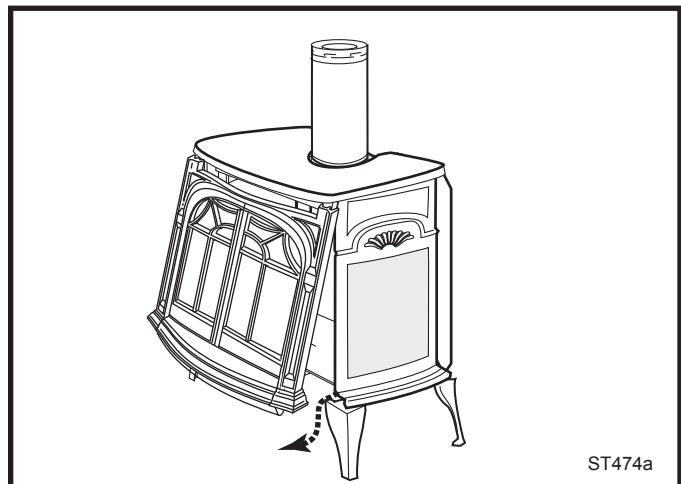

Fig. 83 Remove the stove front.
2. Lift the Stove Front up and then swing the bottom out to disengage it from the heater shell. (Fig. 83)
Replace glass only with Vermont Castings Group approved parts. Refer to Page 44 for Replacement Parts. Refer to Figures 83 & 84 for removal of the damaged glass frame.
1. Remove the Front, Glass Frame and Glass Panel. (Figs. 83 & 84) Remove the old gasket. Use a razor blade to separate the glass and gasket from the frame, and to clean the glass of any remaining cement or bits of gasket. Use a cold chisel if necessary.